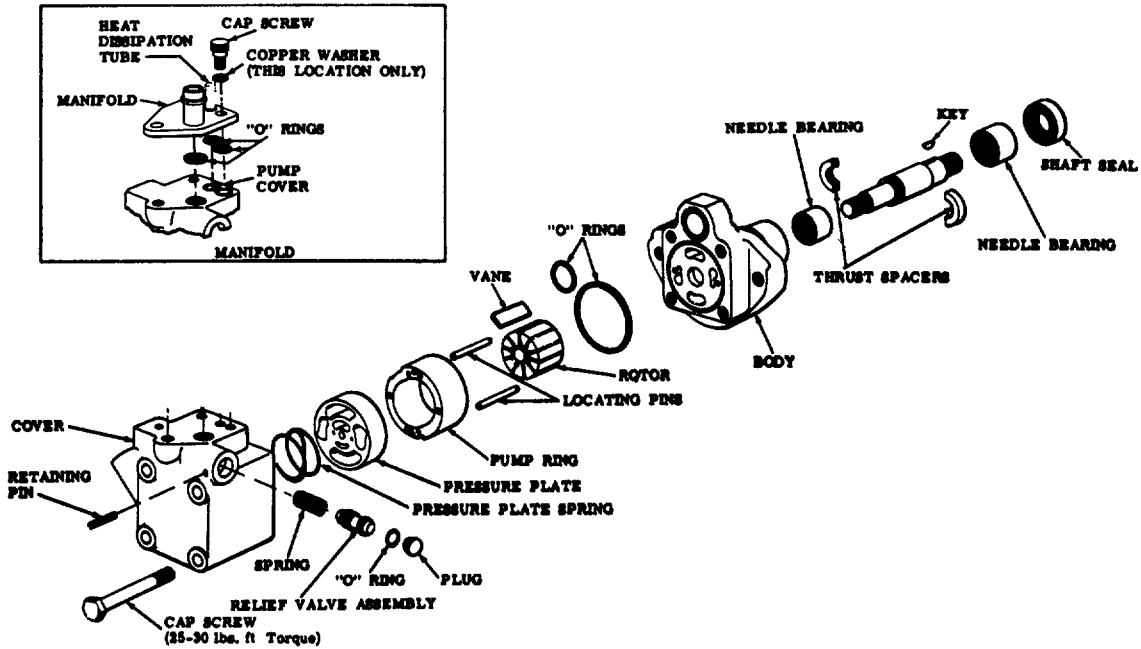

FIGURE 23
All "O" rings, and the shaft seal should be replaced at reassembly. All seals should be soaked in hydraulic fluid before being used. Refer Fig. 23 and proceed with disassembly.
1. Immerse all parts in clean hydraulic oil to facilitate reassembly Refer Fig. 23